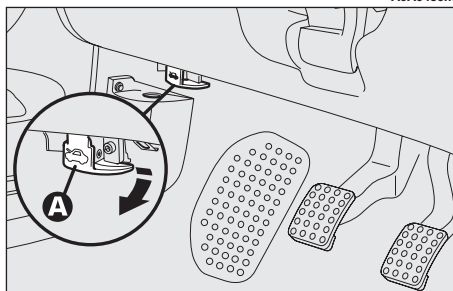

fig. 131
- pull the lever (**A-fig. 131**) until the bonnet clicks open.